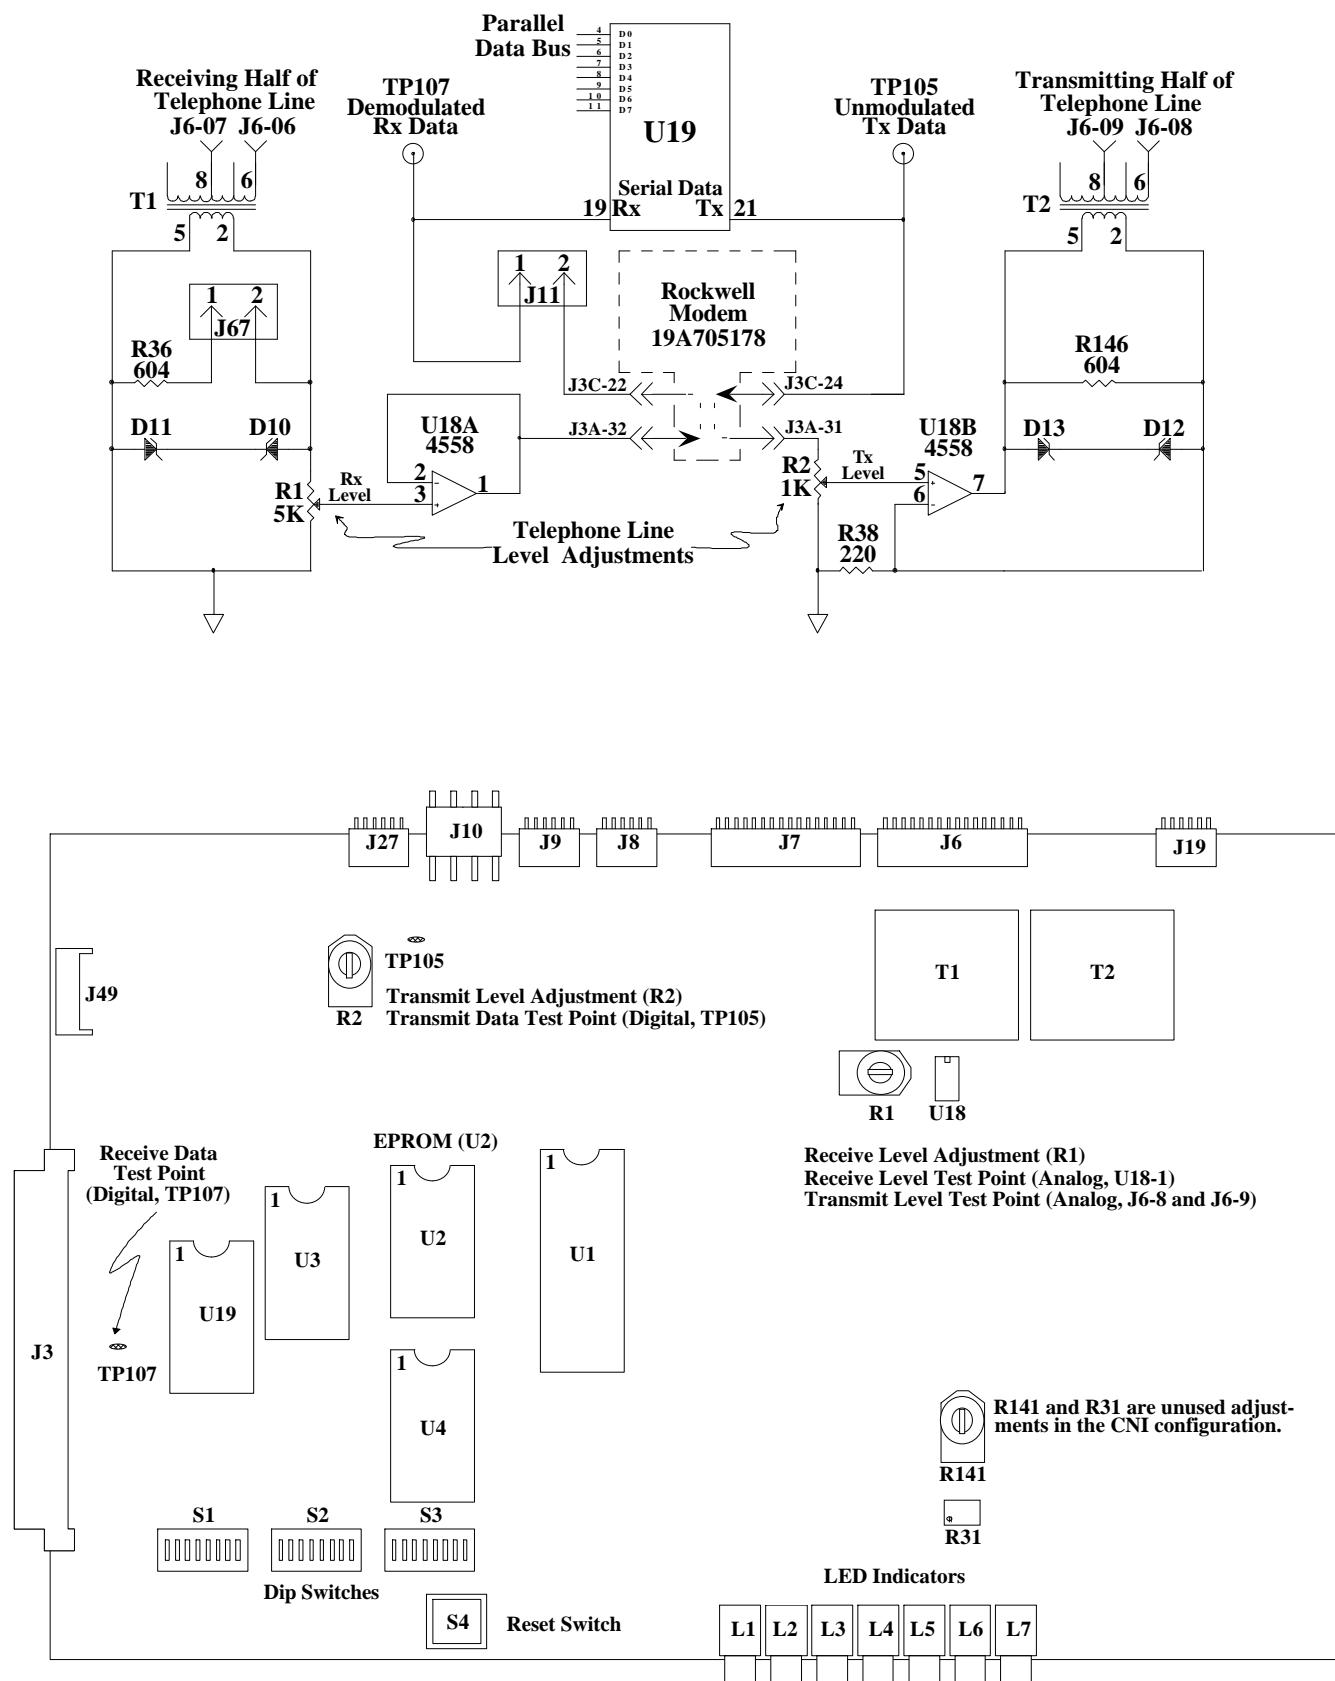

Figure 4 - GETC Phone Line Level Adjustments
3. Adjust the receive level by monitoring U18 pin 1 (refer to Figure 4) and adjusting the receive level potentiometer R1 (located on the GETC Logic Board) for 400 mVpp as measured with an oscilloscope (85 mVRms if using an RMS Voltmeter).